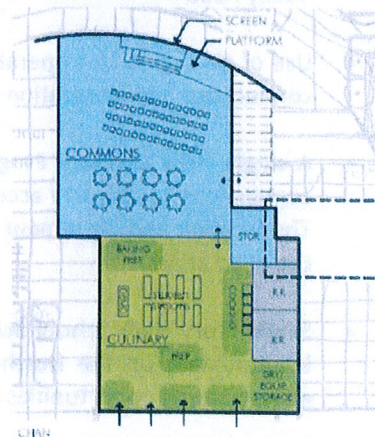

Figure 1: Curved Commons Form
- Site Committee likes the curved form of the Commons space as shown in Figure 1.